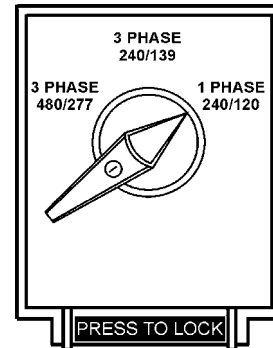

**Figure 25. UVWO Terminal Lugs
2. Connect the load wires to the UVWO terminals as shown in Figure 25.